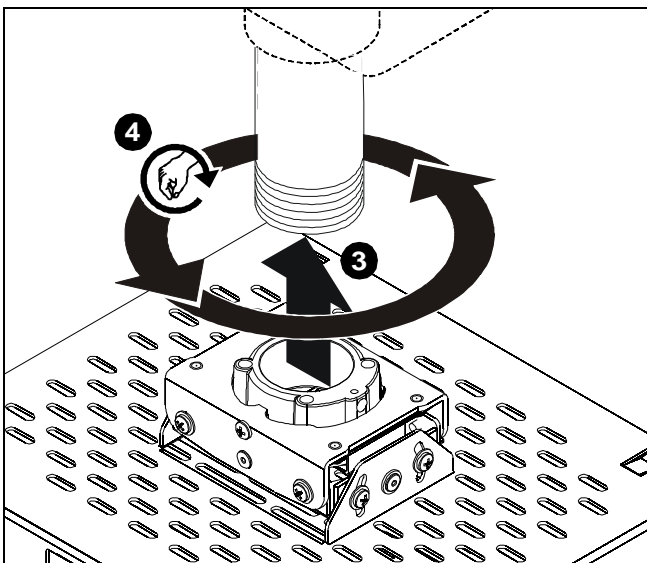

Figure 2
3. Align MSP-CCS3 outer sleeve with end of NTP pipe. (See Figure 2)
4. Thread MSP-CCS3 sleeve up onto pipe by turning counterclockwise until hand tight. (See Figure 2)